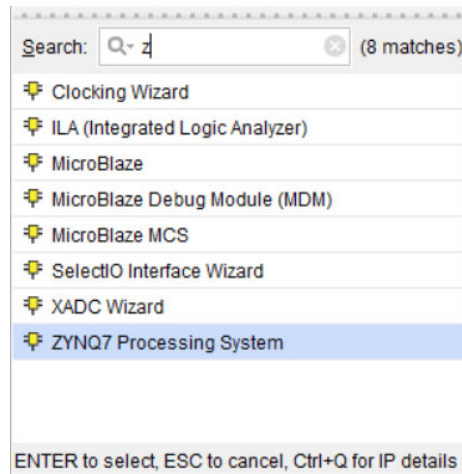

Figure 5: Adding the ZYNQ7 Processing System
4. Once the IP browser is open, enter “**z**” into the search box and select “**ZYNQ7 Processing System**” and press enter to add the ZYNQ hardcore processor IP to the block design. See Figure 5 below.